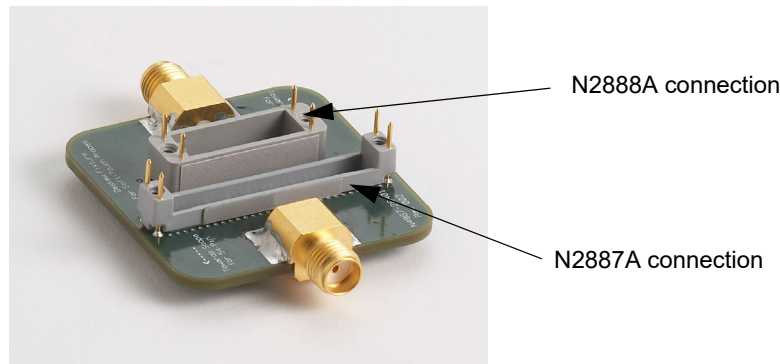

Figure 115 Deskew Fixture with N2887/8A Connections
- 4 Connect either the N2887A or N2888A probe head to the deskew fixture as shown in the **Figure 115** on the following page (note: use the appropriate connector for either the N2887A or N2888A model as shown on the following page).